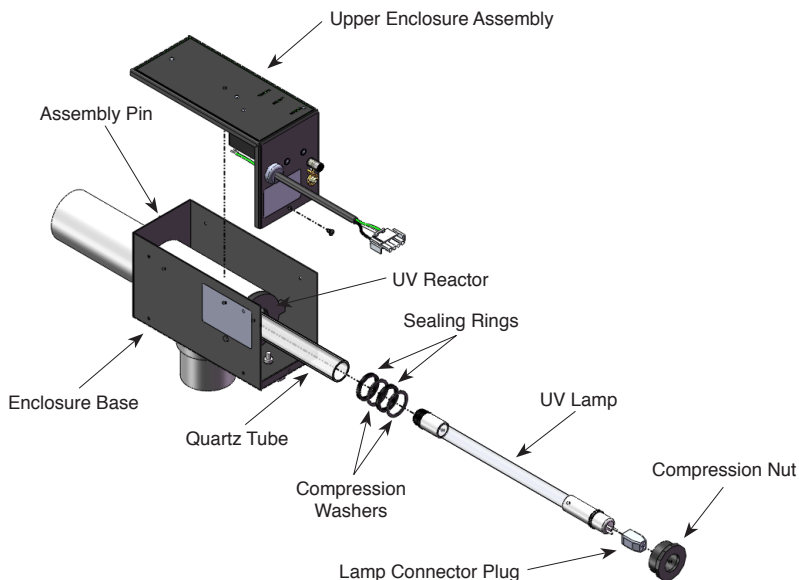

Figure 2: Mast3rPur System Exploded View
a. UV Lamp Removal – See Figure 2.